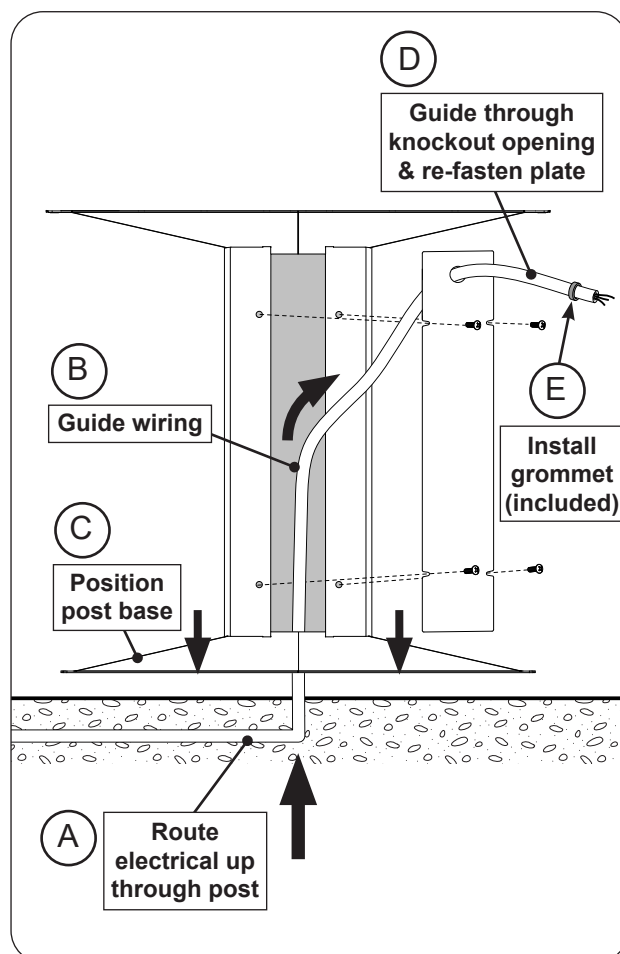

Fig. 27-2 Remove access plate and knock-out
- Tilt the post base slightly and carefully feed the electrical wires (coming from underground) up from under the post base (See Fig. 27-2, A)
- Guide wiring up the post assembly (See Fig. 27-2, B)
- Carefully rest the post base at its designated location (See Fig. 27-2, C)
- Feed the electrical through the knockout hole of the access plate and re-fasten the access plate (See Fig. 27-2, D)
- Install the grommet (included) onto the electrical and slide the grommet up against the knockout hole and snap into place (See Fig. 27-2, E)